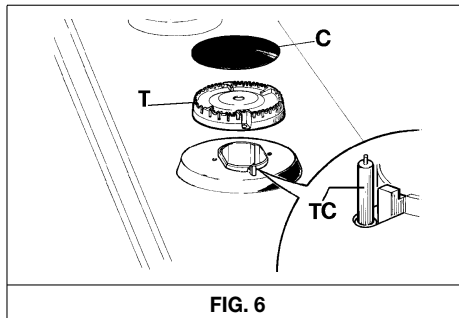

FIG. 6
Periodically wash the hotplate, the enamelled steel pan support, the enamelled burner caps "C" and the burner heads "T" (see fig. 6) with lukewarm soapy water. After cleaning, all parts should be thoroughly rinsed and dried. Never wash them while they are still warm and never use abrasive powders. Do not allow vinegar, coffee, milk, salted water, lemon or tomato juice to remain in contact with the enamelled surfaces for long periods of time.
- **Check that enamelled the burner cap "C" (fig. 6) is correctly positioned on the burner head. It must be steady.**